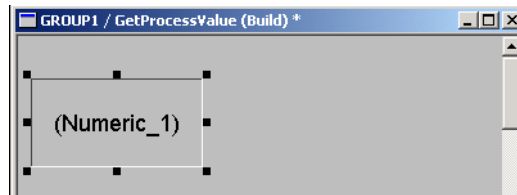

Figure 17. Numeric Display Element
4. When the box is approximately the size that you want for the Numeric display element, release the left mouse button. Now you will see the Numeric display element, Figure 17.